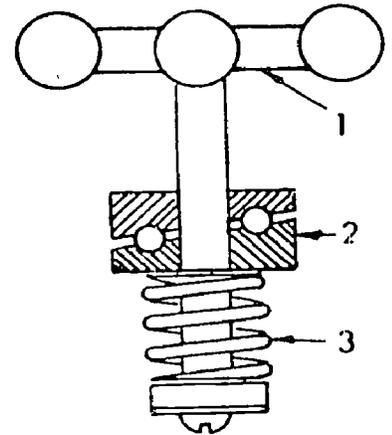

Fig. 3
10. What type of faucet stem is represented in Diagram 33, Figure 3?